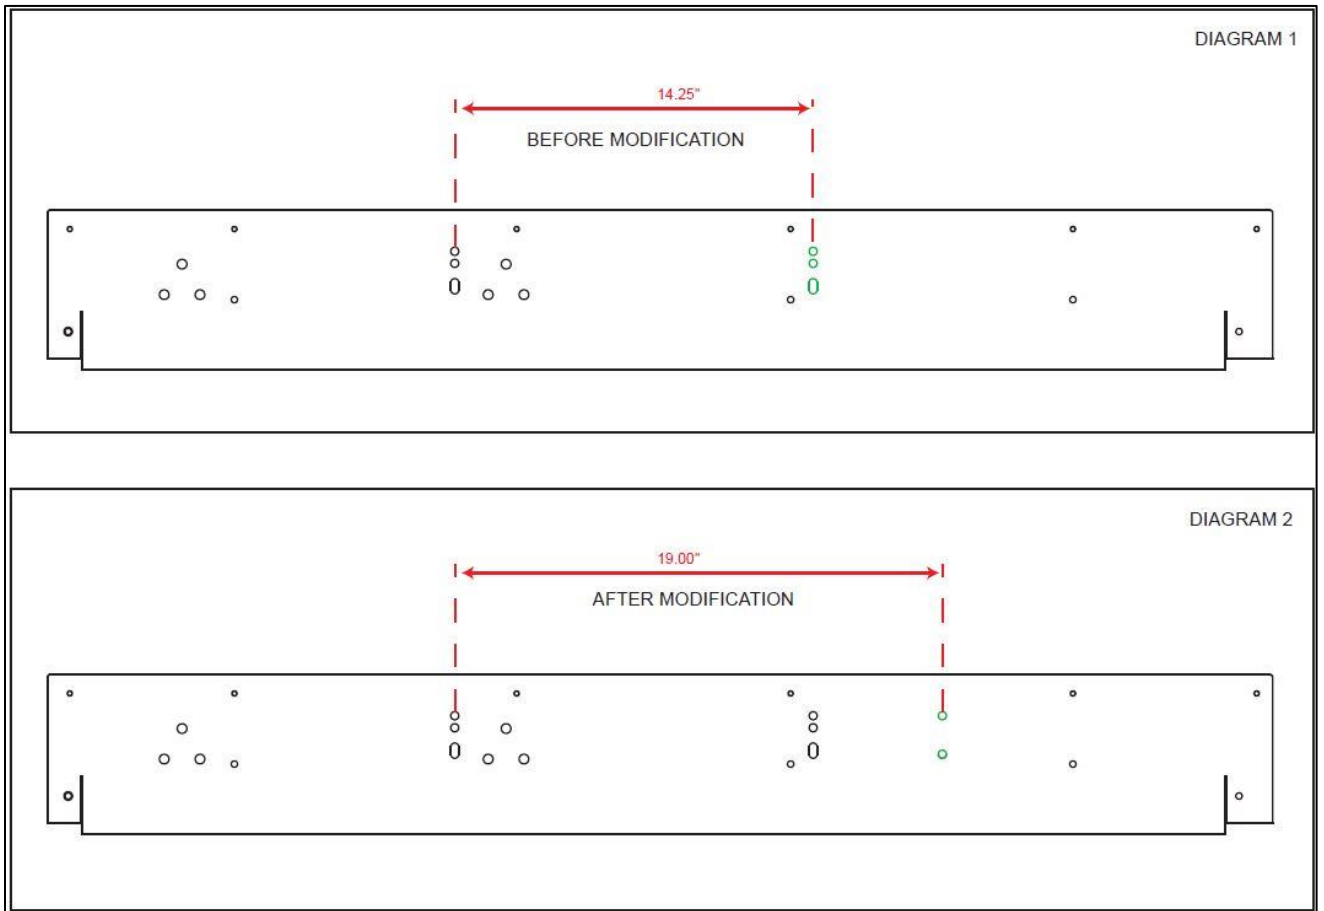

Figure 2
4. Refer to Figure 2 below for the new mounting location of the safety hook.
5. Drill 5/16 inch hole at the new location as per Figure 2.